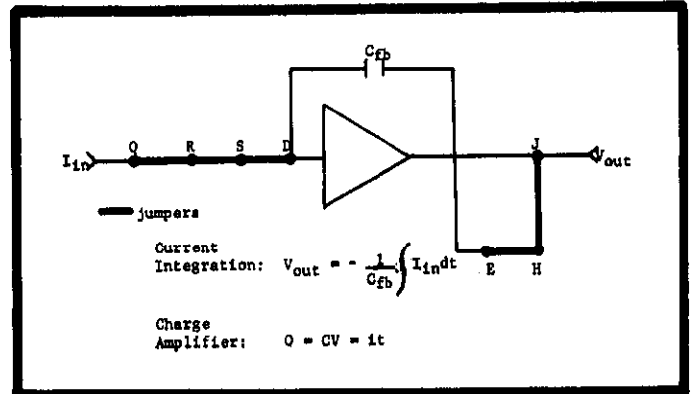

FIGURE 11. Current Integrator or Charge Amplifier.
2-9. CURRENT INTEGRATOR OR CHARGE AMPLIFIER (Figure 11).
b. Connections for the Model 300 as a current integrator or charge amplifier (Figure 11):